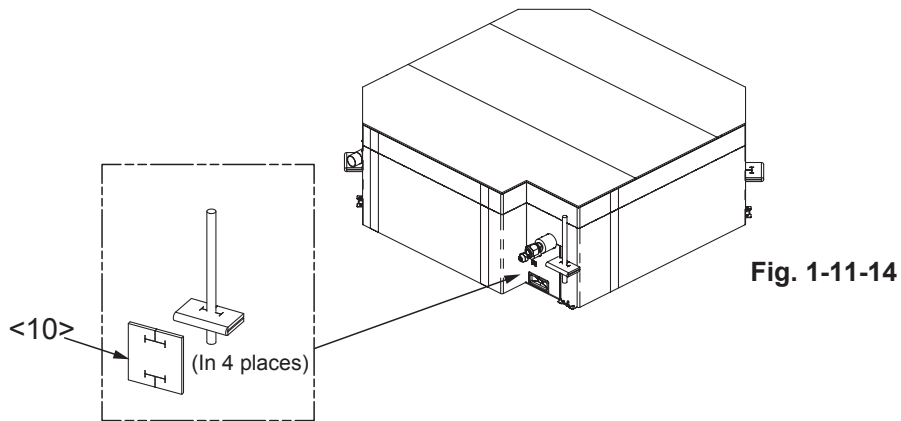

Fig. 1-11-14
5. Attach the hanger insulators <10> to the hangers in the directions shown in the figure. (Fig. 1-11-14)